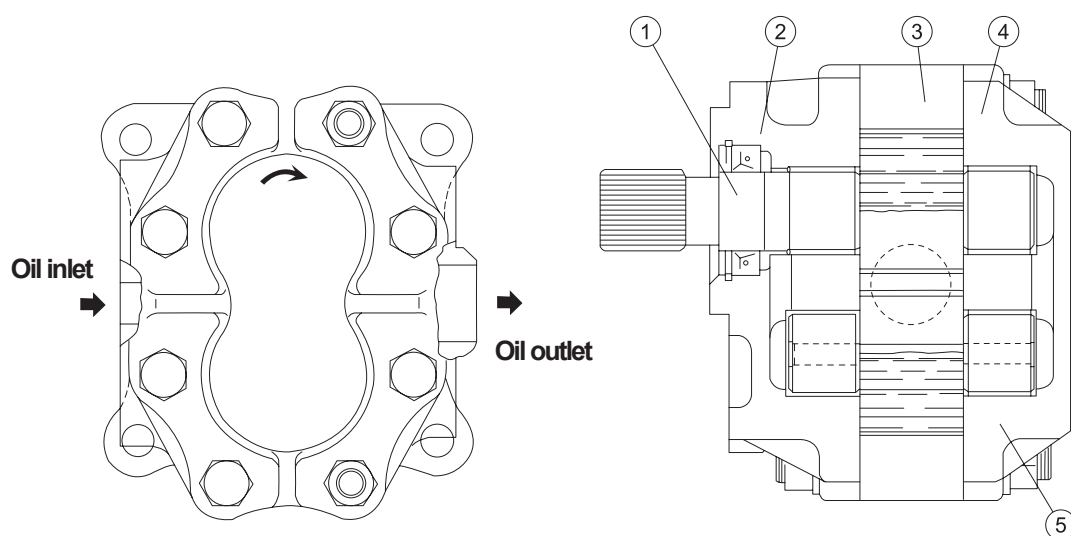

Figure 3-68
Transmission pump is a gear pump (See Figure 3-68). The transmission pump is connected with the transfer case, to convert the mechanical energy into the hydraulic energy. The transmission pump sucks the hydraulic oil from the steering case through the strainer (12), and the exhausted oil enters the pressure-adjusting valve (15) through the fine filter (14). After pressure adjustment, the oil enters the hydraulic torque converter's overflow valve (5) (The valve's set pressure is 0.87MPa), and the overflow oil returns to the steering case. Pressurized oil going through the overflow valve enters the hydraulic torque converter(9), to let the hydraulic torque converter's back pressure valve (6) ensure that the oil in the torque converter has sufficient operating pressure. The oil going through the back pressure valve, after being cooled by the oil cooler, returns to the lubricating valve (11), to lubricate the transfer case due to the lubricating valve being pressed. After lubrication, the oil flows to the inner of the torque converter housing; The oil overflow from the lubricating valve again goes to lubricate the transmission case, and after lubrication, the oil flows into the steering case. The oil scavenger pump ensures that the oil within the torque converter's housing can continuously returns to the steering case.